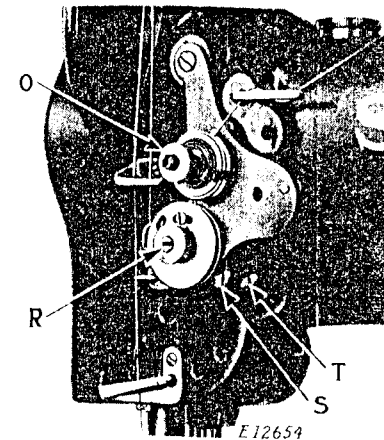

Fig.16. Adjustment of Thread Controller
The tension on the needle thread is regulated by the thumb nut (O, Fig.16) at the front of the tension discs on the front of the machine. To increase the tension, turn this thumb nut over to the right. To decrease the tension, turn this thumb nut over to the left.
For more controller action on the thread, loosen the stop screw (S, Fig.16) at the right of the tension and set the stop lower, and for less action set the stop higher.
To strengthen the action of the controller spring on the thread, loosen the tension stud screw (T, Fig.16) at the right of the stop screw and turn the tension stud (R) slightly to the left with a screwdriver, or to lighten its action turn to the right and retighten the tension stud screw.